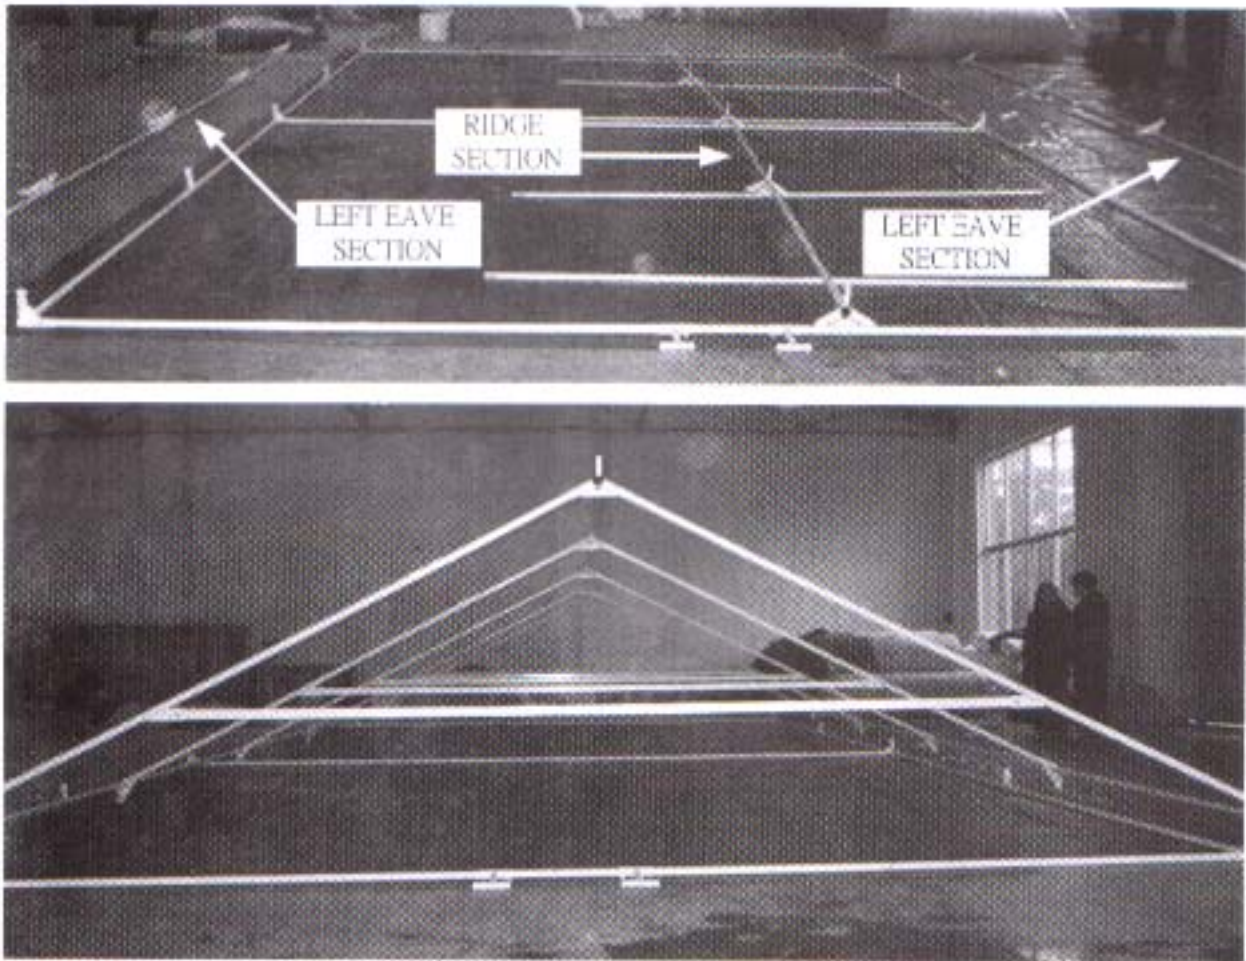

Figure 4: Roof Frame Installation
3. Assemble Part No. 1, 2 and 3 to form the Ridge Section as shown in Figures 4 and 5. Connect Part No. 5 of the horizontal rib with Part No.4. Make sure that all Slip-fits and wing nuts for Part No. 5 are properly fastened.
4. Form the Roof Frame by assembling the left eave and the right eave by connecting Part No. 6 and 7. The assembled Roof Frame is shown as Figure 4.